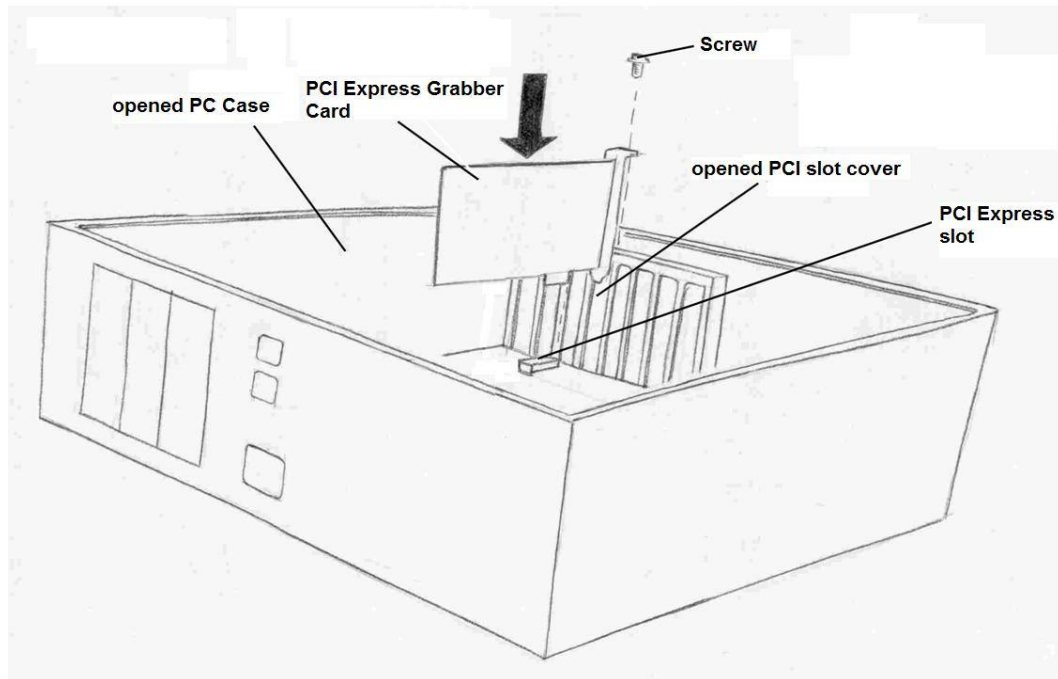

Figure 6: Inserting the Card into the PCI Express Slot
- As shown in Figure 6, insert the pciGrabber-4x4 into the slot with the connectors facing outwards. The card should be inserted securely.
For stability reasons, and to ensure a secure Ground connection to the computer's housing, screw the card to the housing (see Figure 6)